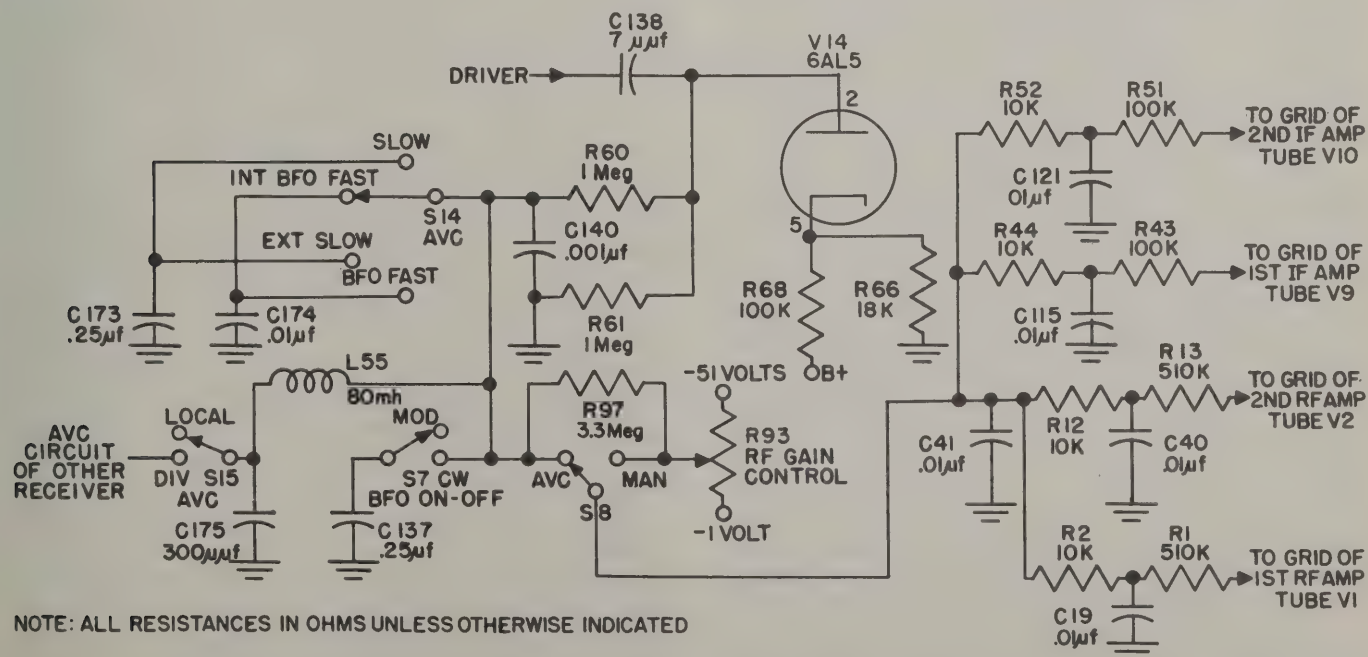

Figure 2-11. Radio Receiver R-450/FRR-28, Simplified Schematic of AVC Circuit
(10) IF OUTPUT BUFFER STAGE V16A. The IF signal is fed from the plate of the driver stage V11 to the grid of the IF buffer output stage V16A through coupling capacitor C145. Bias is provided by grid leak resistor R78. Plate voltage is filtered by resistor R80 and capacitor C146. The output of tube V16A, at the cathode end of cathode resistor R79, is fed to the IF OUTPUT MONITOR jack J2 through coupling capacitor C147 and autotransformer L53.
(11) VOLUME CONTROL CIRCUITS. (See figure 2-11.)—Three methods of volume control are provided in the receiver unit: manual volume control, diversity AVC, and local AVC.